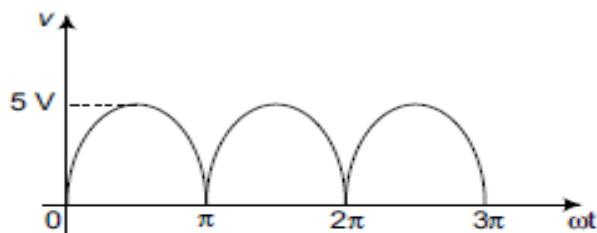

Fig. 2.22
**Example 3:** Find the average and rms value of the full wave rectified sine wave shown in Fig. 2.22